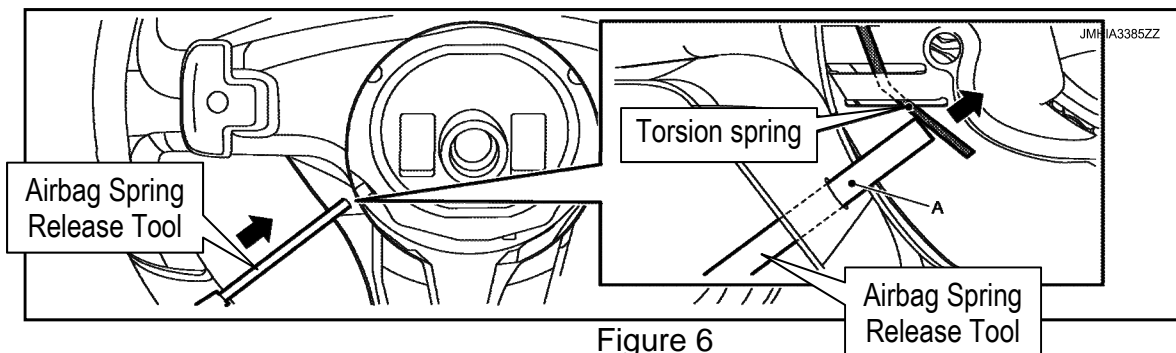

Figure 6
8. Press and disengage the torsion spring by using the inserted Airbag Spring Release Tool (A) (Figure 6).